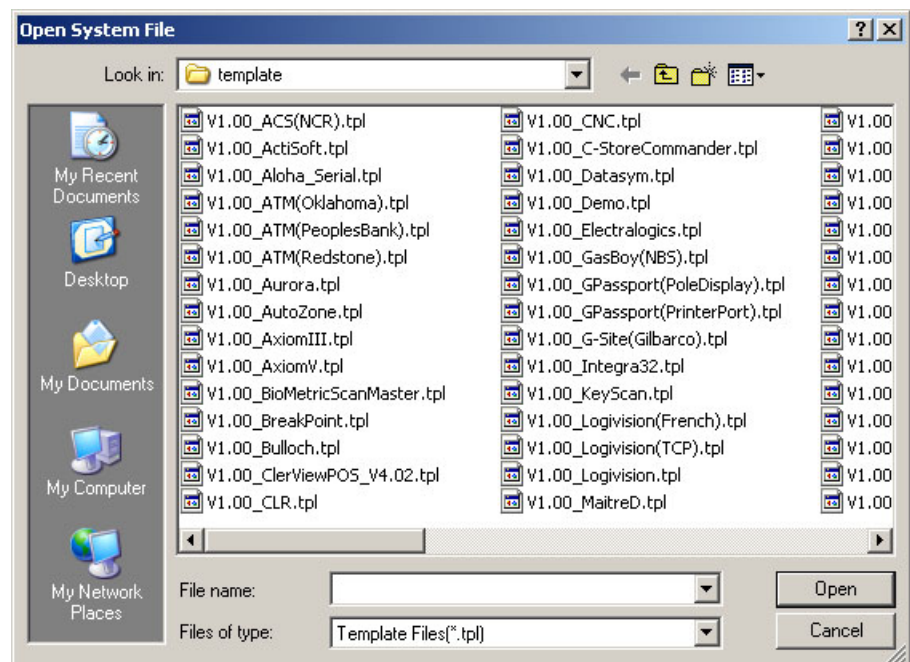

Figure 12 - List of different templates
3. Select the correct template for the peripheral devices (Figure 12)